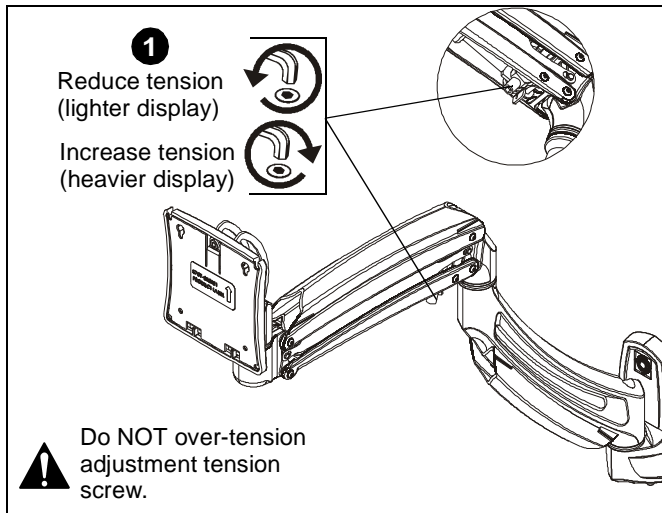

Figure 8
1. Use 3/16" hex key (G) to adjust lift arm tension adjustment screw. (See Figure 8)